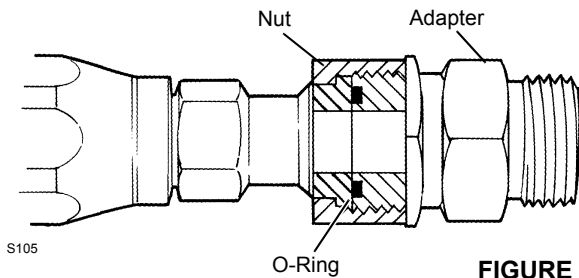

FIGURE 2-10
1. Lubricate and install O-ring in adapter groove (Figure 2-10).